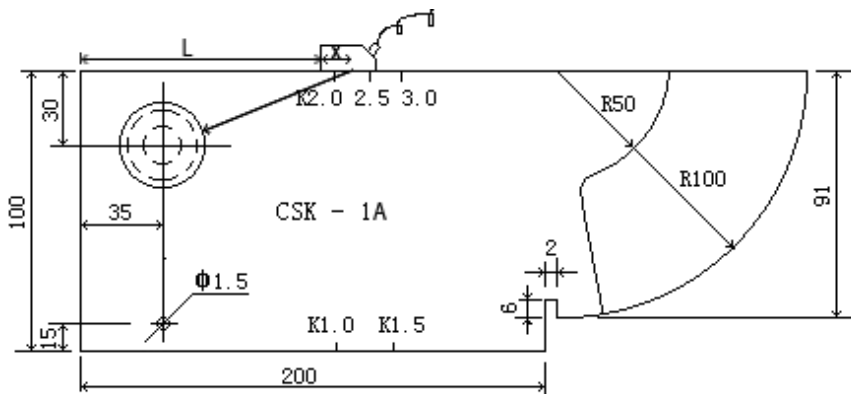
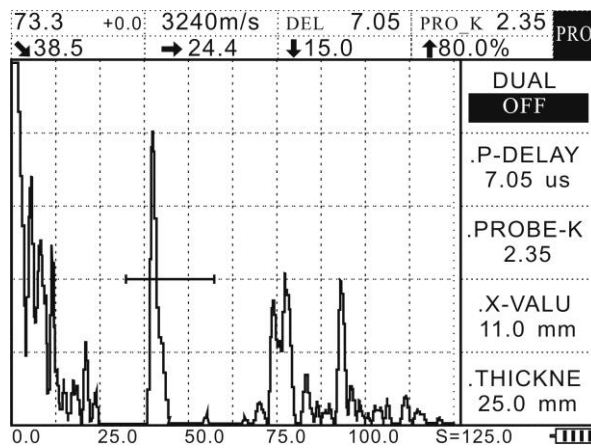

Figure 4-7
Figure 4-9
5. Calibrate the probe K value (angle): couple the probe to the CSK-1A test block and move it back and forth, as shown in Figure 4-7, till the reflection echo of the circle of $\phi 50\text{mm}$ reaches the highest level, use a steel ruler to measure L, and calculate K value according to $k=(L+X-35)/30$. As shown in Figure 4-9, press **PROBE** to enter the probe menu, press **▲** (up) or **▼** (down) to select the probe K value submenu, then press **◀** (left) or **▶** (right) to set the value as the K value calculated. As shown in Figure 4-9, or direct press **PEAK MEM** to calibrate the K value automatically.